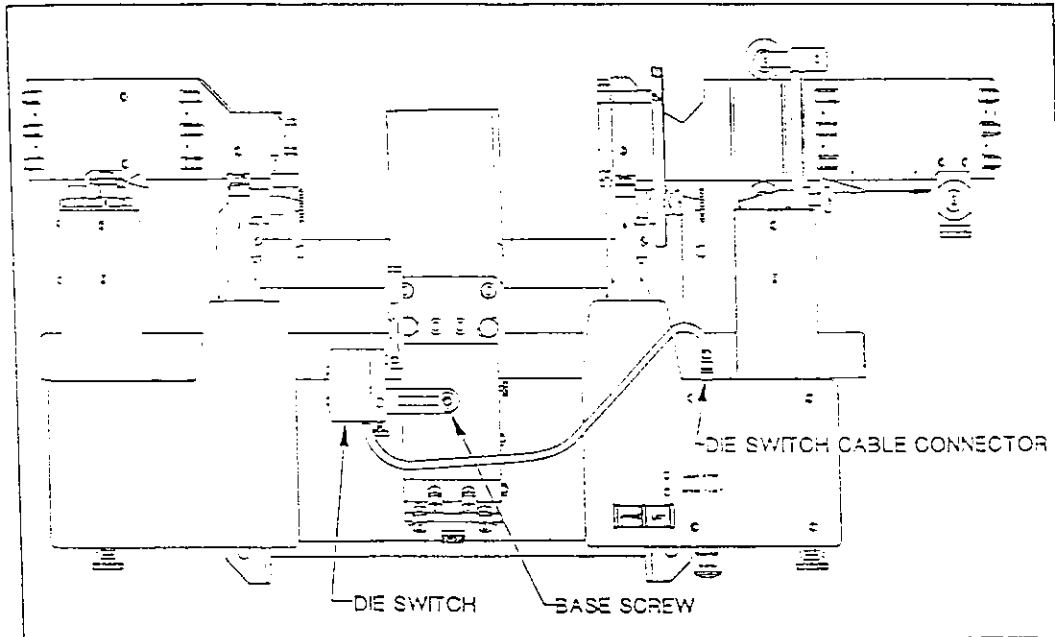

Figure 1-9.
STEP 5: Connect die switch cable connector to input module as shown in Figure 1-9.